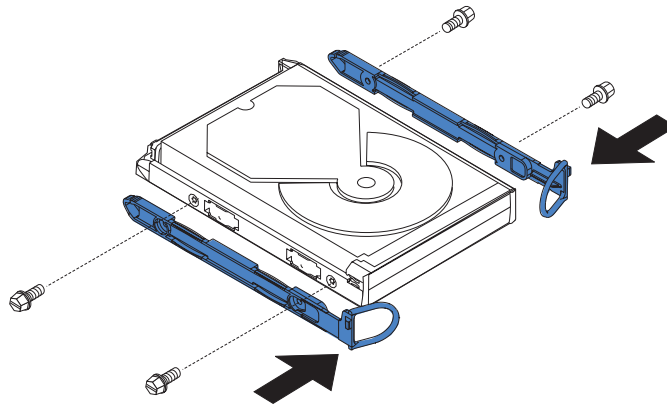

Figure 89. Attaching the rails to the SAN Volume Controller 2145-4F2 disk drive
9. If you are exchanging the disk drive for another, locate the rails and screws that are shipped with the new disk drive. Attach the rails to the disk drive, as shown in Figure 89.